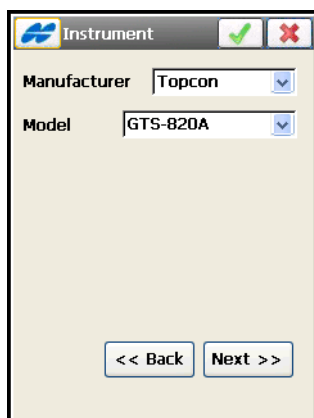

Figure 3-61. Instrument Screen
The *Instrument* screen (Figure 3-61) sets a total station being used in survey.
- Pressing the ok ☒ button saves the settings and returns to the *Instrument* screen (Figure 3-61 on page 3-60).